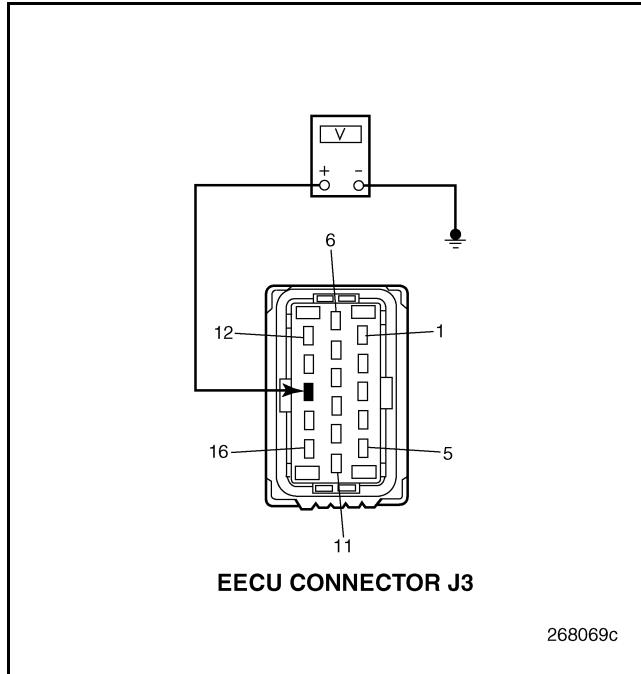

Figure 774
5. Measure the voltage between the EECU connector J3 pin 14 and a good ground (see Figure 774).